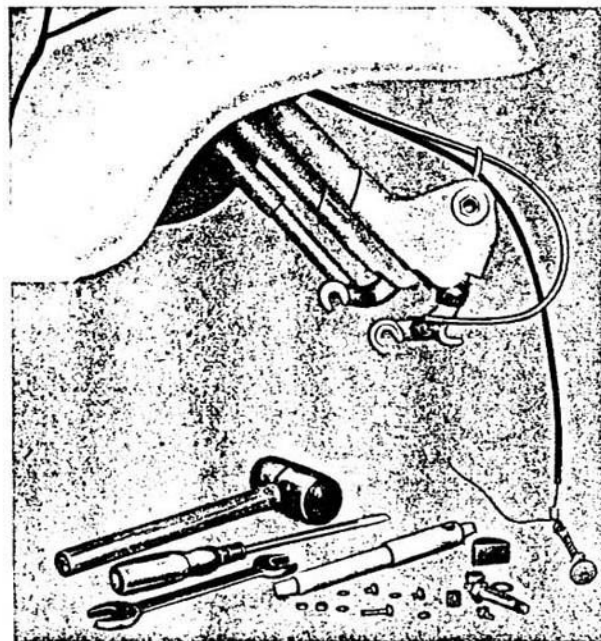

Fig. 35
- 64 To remove lower buffer; unscrew grease nipple under the lever, remove screws fixing buffer (10 mm. spanner) remove buffer with the help of a screwdriver. See Fig. 35.